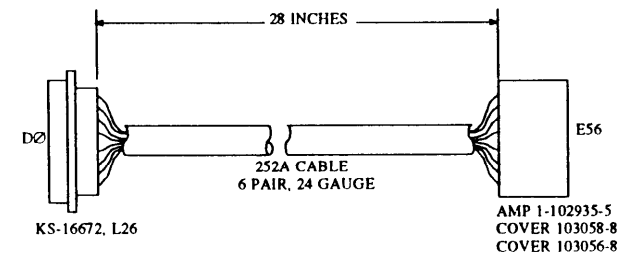

Figure 12-22. ED-1E434, Group 133 Cable
Install the ED-1E434, Group 133 (figure 12-22) intracabinet cable(s) in the central traditional module control cabinet(s) associated with RMI as shown in table 12-4. These cables connect from the module control carrier backplane pins E56 to the inside of the rear connector **REM D0** on the plates (845416585) added as described in the *Cable Connector Plates* section. The connection for module control (01) is for duplicated systems only.